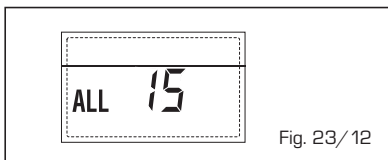

Fig. 23/12
- **EXTERNAL PROBE ANOMALY "FLASHING" (fig. 23/13)**